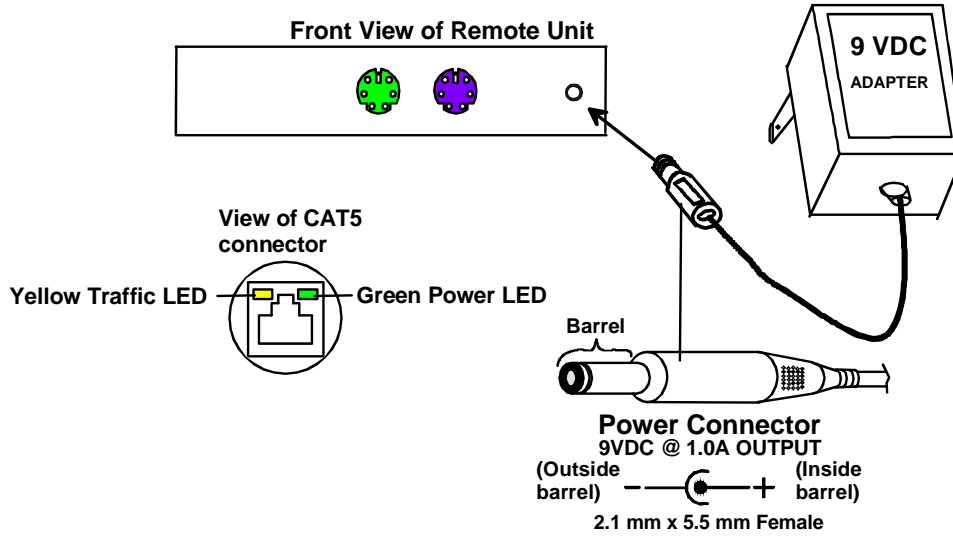

Figure 9- Connect the AC adapter to the Remote Unit
2. Connect each AC adapter power connector to the 9VDC ports on the Remote and Local Units. Plug each AC adapter into a power outlet. The green LED on the RJ45 connector of both the Remote and Local Units should illuminate, indicating that a proper power connection has been made to them. (See Fig. 9.)
Note: The yellow LED on each RJ45 connector will illuminate anytime data traffic is passing between the Local and Remote Units, indicating proper CAT5 cable connection and communication. (See Fig. 9)